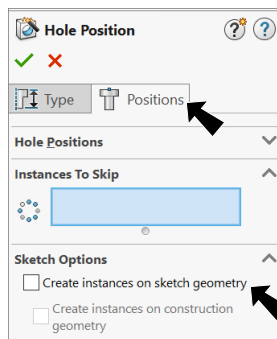

Fig. 20
- Step 5. Click **Positions** tab at top of Property Manager: under Sketch Options, Fig. 20 uncheck **Create instances on sketch geometry**